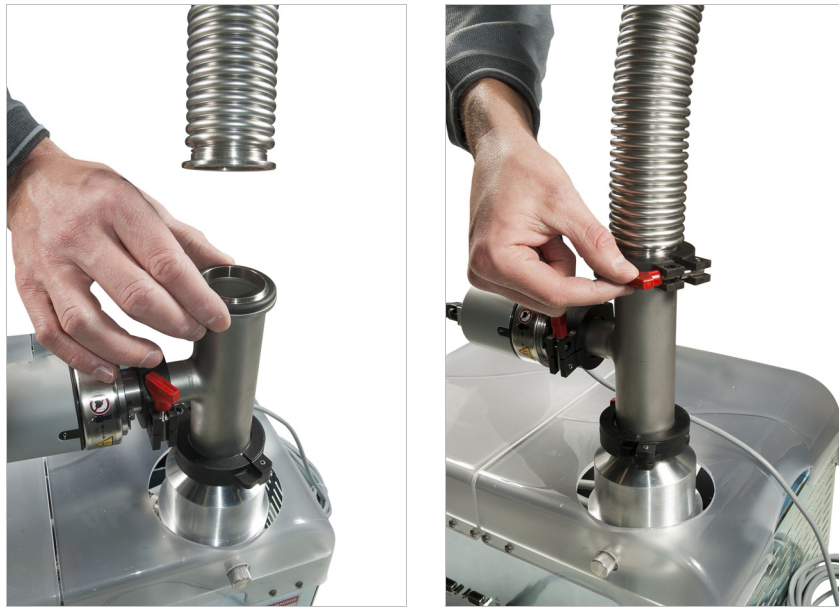

FIGURE 3-28 Install the vacuum line to the pump
- a. Remove the protective cap from the fitting shown in FIGURE 3-28.
- b. Place an NW 40 centering ring on the top NW 40 port of the tee (FIGURE 3-28).
- c. Holding an NW 40 centering ring in place, set the vacuum line against the centering ring (FIGURE 3-28).
- e. Finger tighten the clamp with the screw (FIGURE 3-28).